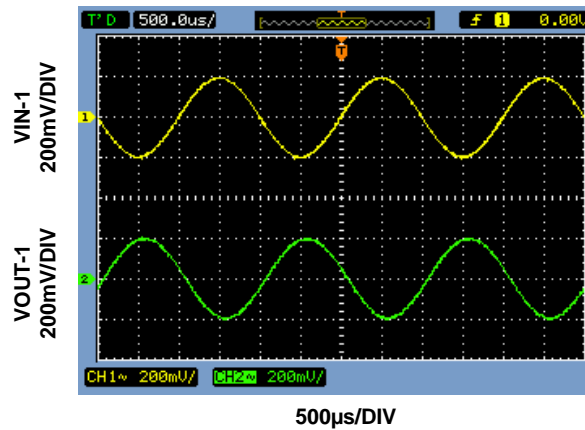

Figure 8. TS1002 and TS1004 Non-Inverting Configuration Input and Output signals
- 9) Observe the input and output signal. The output signal is an inverted version of the input signal with an output swing of approximately 400mV $_{PP}$, corresponding to a signal gain of negative one. Figure 8 shows what the input and output signal should look like. The input signal is in yellow and the output signal is in green.